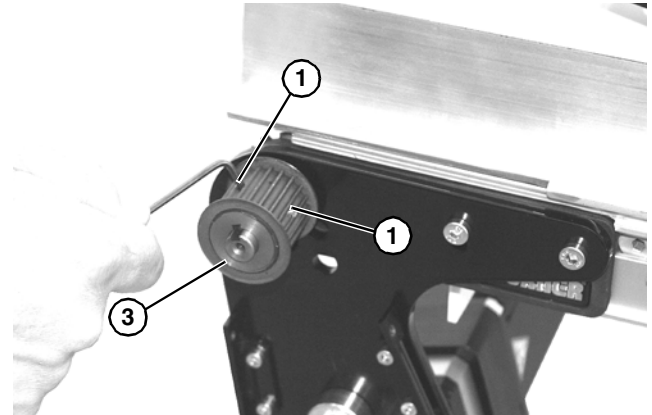

Figure 53
2. Loosen two set screws (**Figure 53, item 1**) and remove driven pulley (**Figure 53, item 2**).